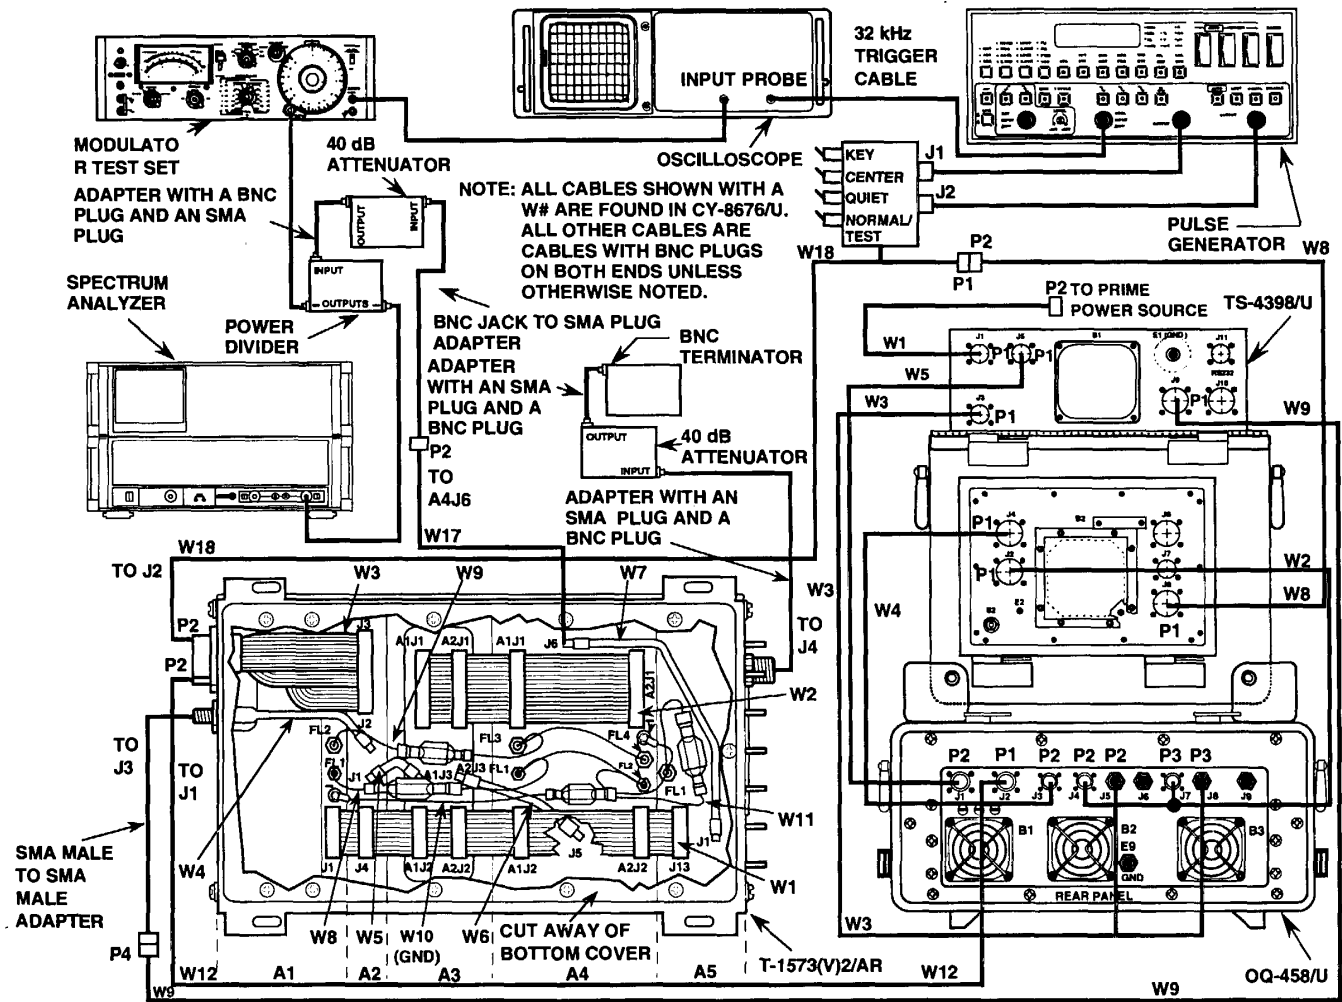

Figure 5-28. T-1573 (V)2/AR BANDPASS FILTER OUTPUT TEST INTERCONNECTIONS.
50.	Connect an adapter to the input of the power divider and to the other 40 dB attenuator output (see figure 5-28).